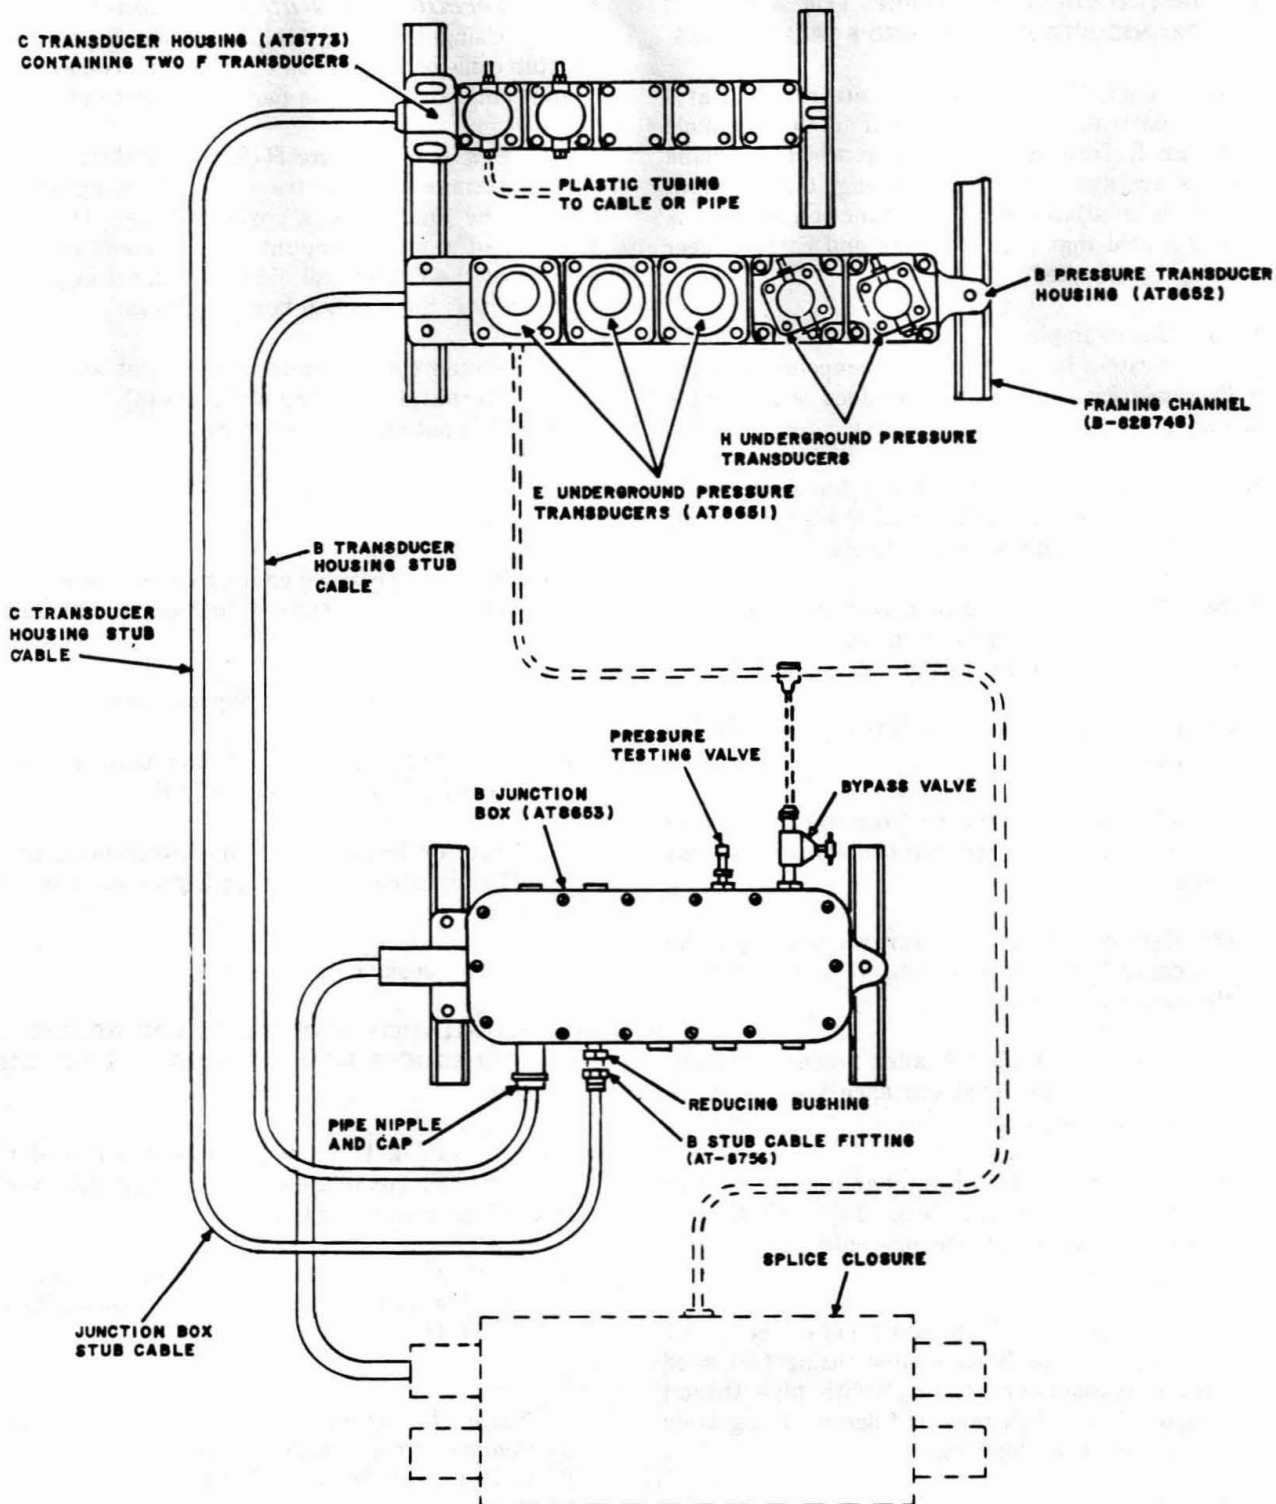

Fig. 21—Example of Superseded E Pressure Transducer System Installation with Components of the F Pressure Transducer System Installed
10.02 An example of an E Pressure Transducer System installation with components of the F Pressure Transducer System added is illustrated in Fig. 21.